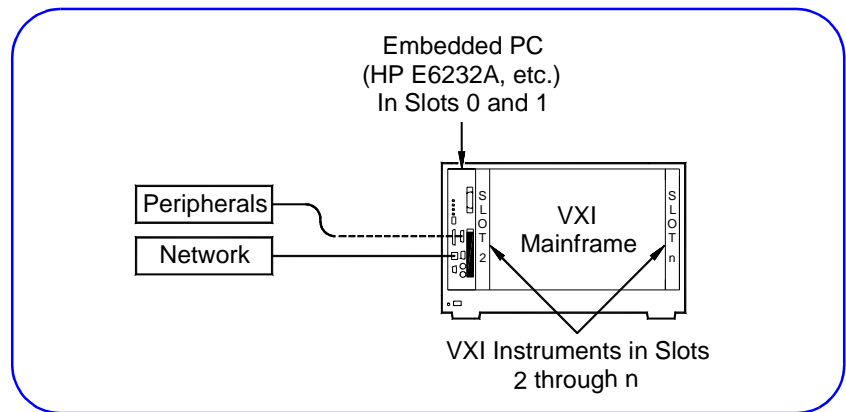

Figure 14. Installing VXI Instruments in the Mainframe
- 2 Turn mainframe power OFF. Then, install each VXI instrument in the slot(s) you previously identified. Figure 14 shows the hardware connected at the end of this step.